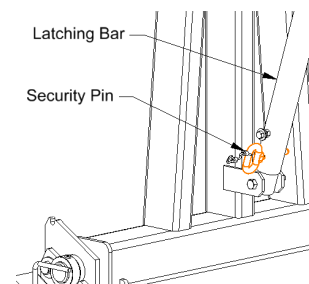

Figure 32
- c. Install the Safety Pin into the slide tube Latching Bar as shown in figure 32.